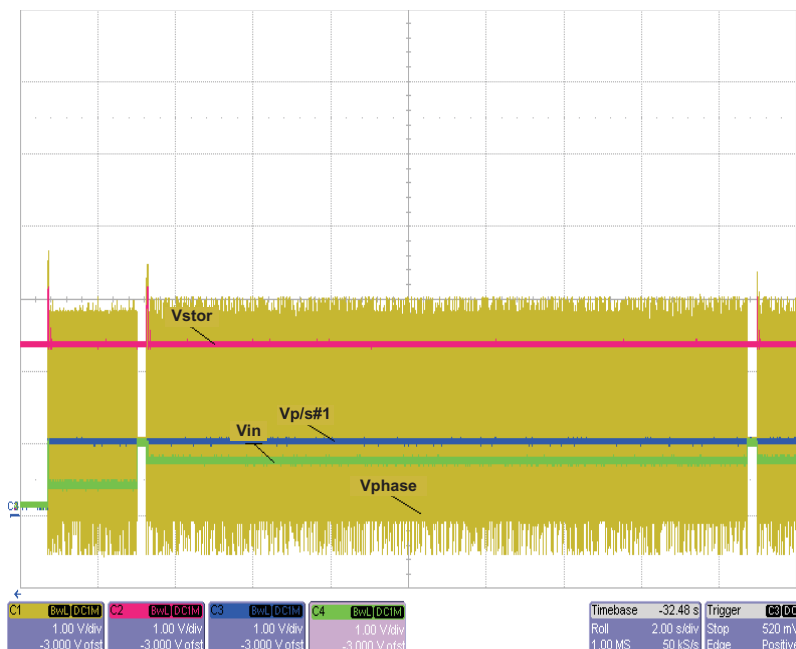

Figure 4. Powering up with a Battery above UV
2. Set PS#1 to 1VDC and hot plug to input with 10 Ω series resistor, see Figure 4.
Note in Figure 4 that the BAT FET is on and the STOR output is powered prior to the input being applied. This means the converter will start up in normal boost mode and after doing its initial sampling will regulate V_{IN} to the MPPT threshold.